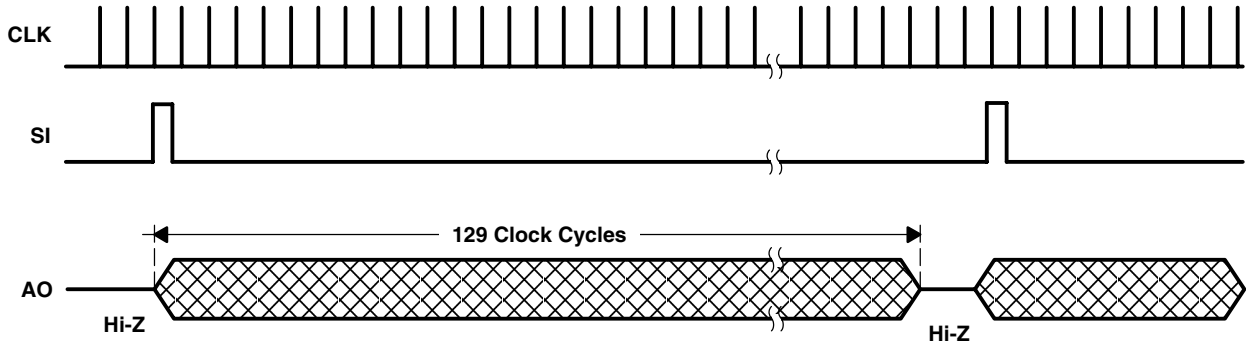

Figure 1. Timing Waveforms
The output and reset of the integrators is controlled by a 128-bit shift register and reset logic. An output cycle is initiated by clocking in a logic 1 on SI for one positive going clock edge (see Figures 1 and 2)†. As the SI pulse is clocked through the 128-bit shift register, the charge on the sampling capacitor of each pixel is sequentially connected to a charge-coupled output amplifier that generates a voltage output, AO. When the bit position goes low, the pixel integrator is reset. On the 129th clock rising edge, the SI pulse is clocked out of the shift register and the output assumes a high-impedance state. Note that this 129th clock pulse is required to terminate the output of the 128th pixel and return the internal logic to a known state. A subsequent SI pulse can be presented as early as the 130th clock pulse, thereby initiating another pixel output cycle.
**Recommended Operating Conditions (see Figure 1 and Figure 2)**
### Timing Requirements (see Figure 1 and Figure 2)